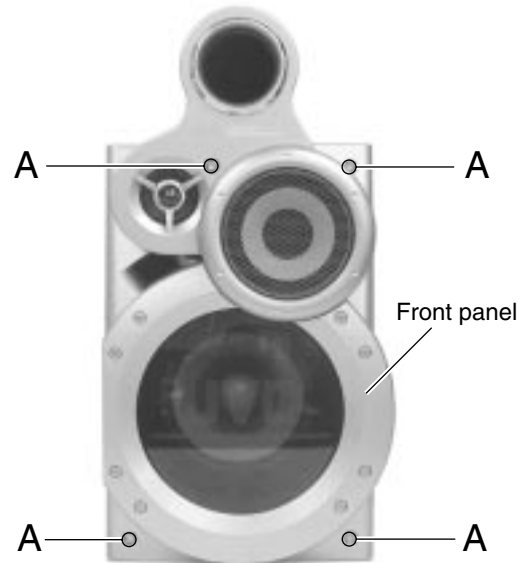

Fig.1
■ Removing the front panel (See Fig.1)